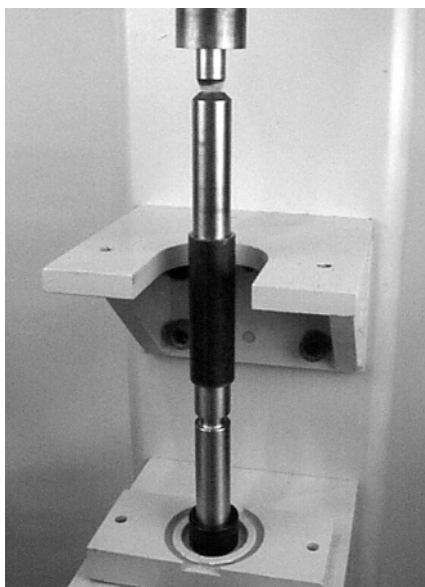

Figure 46
- Using arbor press or similar device, press bearing onto pulley shaft (see Figure 46).